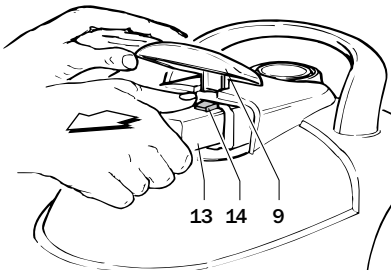

Fig. 4
- 1) With one hand lift up flap 9 (fig. 4)